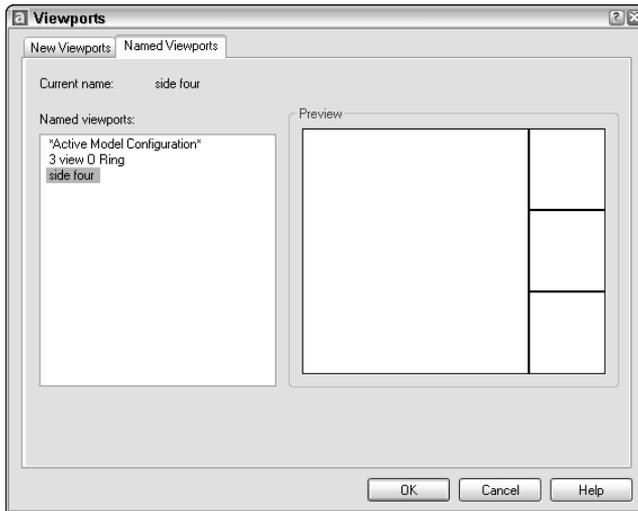

Figure 8-15: The Named Viewports tab lists saved viewport configurations.
1. Choose View ⇨ Viewports ⇨ Named Viewports to open the Viewports dialog box with the Named Viewports tab on top, shown in Figure 8-15.